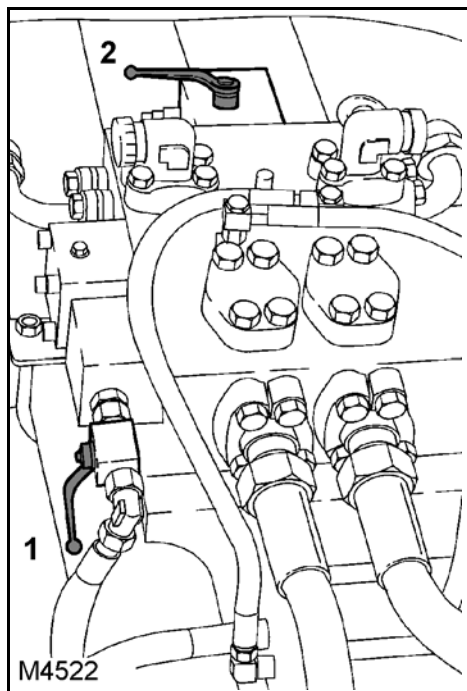

Fig. 363 Concrete pump control block
- Open the ball valve (1) (**Fig. 363**) on the concrete pump control block.